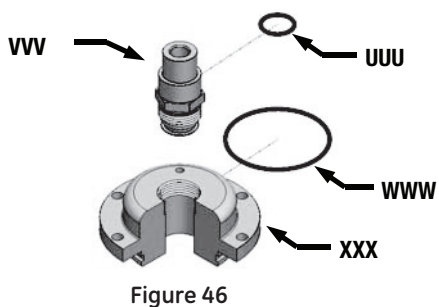

Figure 46
**Step 57:** Insert the Control Spring (NNN) assembly from Step 55 into the Spring Chamber (DDD or FFF). Fasten the Tube Cap (000) to the Inner Tube (CCC) with 4, 8-32 x 1/2" SHCS 316 SS (I). Use Tube Cap SS (000) and 8-32 x 1/2" SHCS Alloy (I) for the 1500 Model.
**Step 58:** For either the VRP-600-SB-PID (Figure 46) or VRP-1000/1500-SB-PID (Figure 47), slide a -141 O-Ring (WWW) over the Cartridge Cap (XXX or YYY), and a -115 O-Ring (UUU) over the Seal Neck (VVV). Thread the Seal Neck (VVV) into the Cartridge Cap (XXX or YYY).